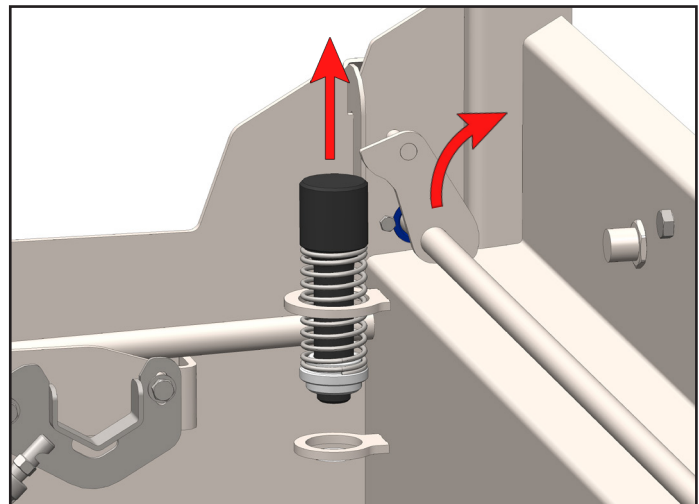

Fig. 10.2: Balancer Weldment rotation to remove Spring
2. Rotate the Spring Balancer Weldment backward to provide enough clearance to remove the Spring assembly [Figure 10.2].